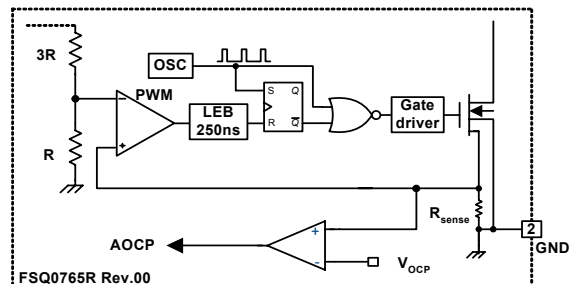

Figure 30. Abnormal Over-Current Protection
4.2 Abnormal Over-Current Protection (AOCP): When the secondary rectifier diodes or the transformer pins are shorted, a steep current with extremely high di/dt can flow through the SenseFET during the LEB time. Even though the FSQ-series has overload protection, it is not enough to protect the FSQ-series in that abnormal case, since severe current stress is imposed on the SenseFET until OLP triggers. The FSQ-series has an internal AOCP circuit shown in Figure 30. When the gate turn-on signal is applied to the power SenseFET, the AOCP block is enabled and monitors the current through the sensing resistor. The voltage across the resistor is compared with a preset AOCP level. If the sensing resistor voltage is greater than the AOCP level, the set signal is applied to the latch, resulting in the shutdown of the SMPS.